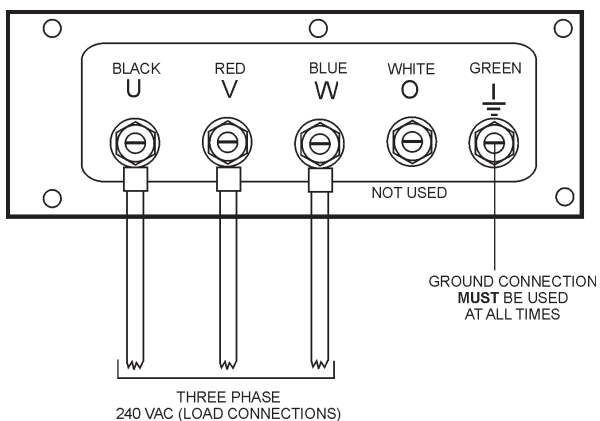

Figure 23. UVWO Terminal Lugs 3Ø-240V Connections
2. Connect the load wires to the UVWO terminals as shown in Figure 23.